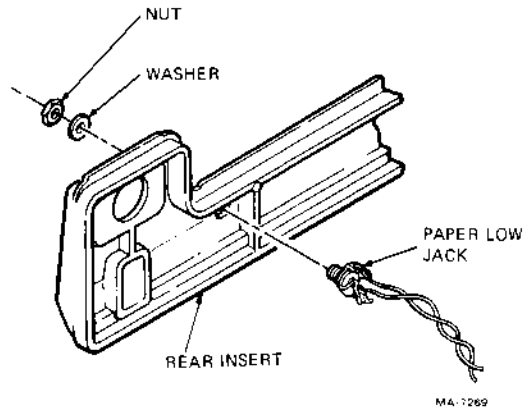

Figure 3-13 Attaching Paper Low Jack
8. Remove the rear insert (Figure 3-13).
9. Locate the paper low jack in the option kit and remove the attached nut and washer (Figure 3-13).
10. Insert the paper low jack through the rear cover insert and secure it using the nut and washer removed during the previous step (Figure 3-13).